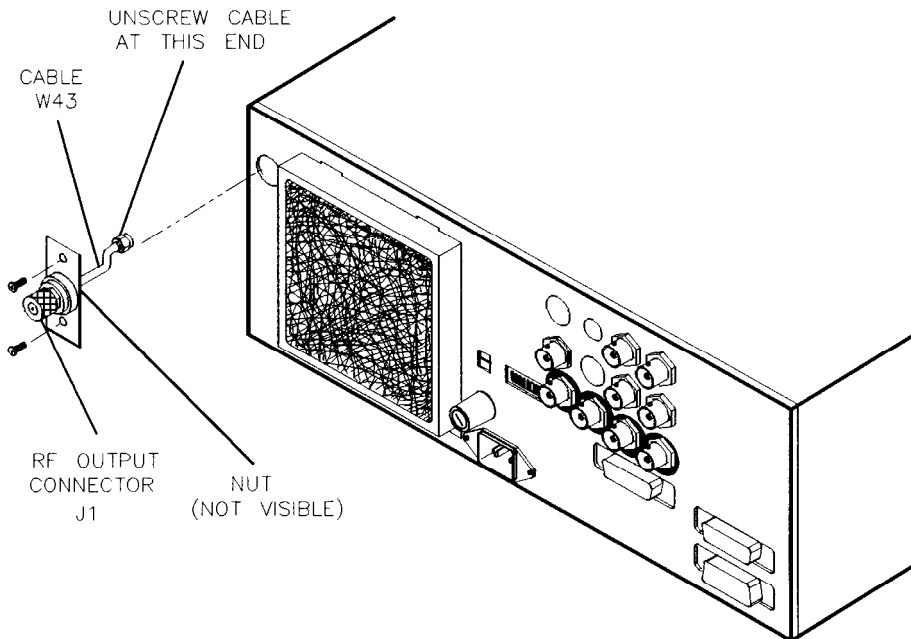

Figure 7-10. Removing RF Output Connector
1. Disconnect cable W43 at bridge detector A30. Refer to Figure 7-10.